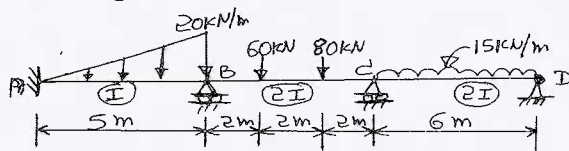

Fig.Q5 (16 Marks)
- 5 Analyze the continuous beam as shown in Fig.Q5 by Kani's method and also determine its bending moment diagram and shear force diagram.